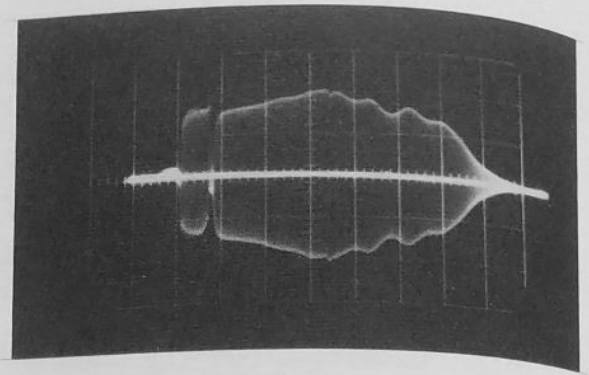

Figure 26. Input, Video Input 2J13. Output at Junction of 2R134, 2R135, and 2R136. Marker on 2.5 mc.
23. Turn the TEST switch to CHROMA UNITY, position 4. Connect scope probe to junction of 2R134, 2R135, and 2R136. Set the marker on 2.5 mc. Remove the ground from 2R53 and 2R75. The overall luminance channel response will be as shown in Figure 26. Adjust 2C22 to obtain approximately 160% response at 2.5 mc.